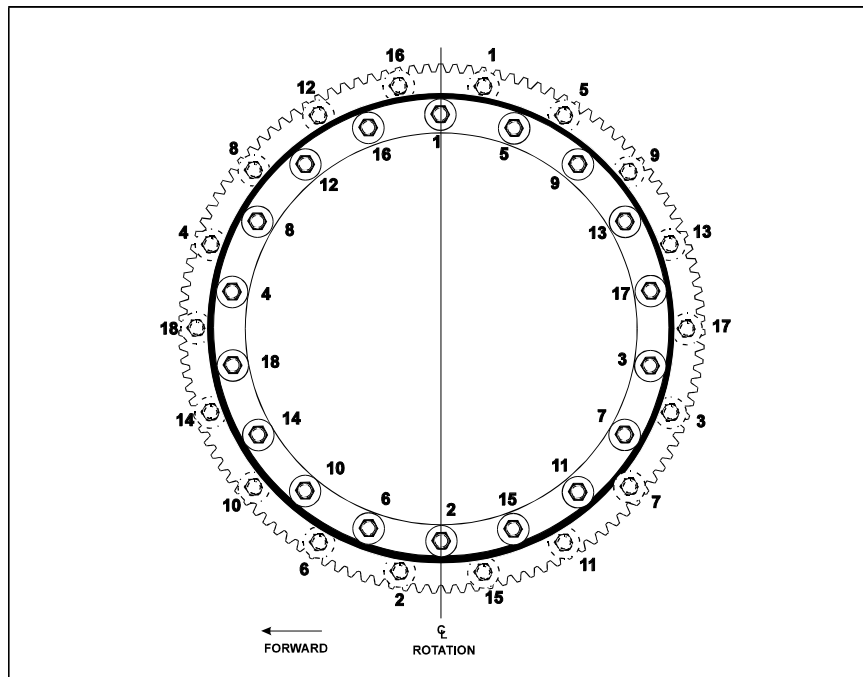

Figure 3-31. Swing Bearing Torque Sequence
- c. Refer to the Torque Sequence diagram as shown in Figure 3-31., Swing Bearing Torque Sequence. Spray a light coat of Safety Solvent 13 on the new bearing bolts. Then apply a light coating of Loctite #271 to the new bearing bolts, and install the bolts and washers through the frame and outer race of the bearing. Tighten the bolts to an initial torque of 240 FT. LBS. (326 Nm) w/Loctite.